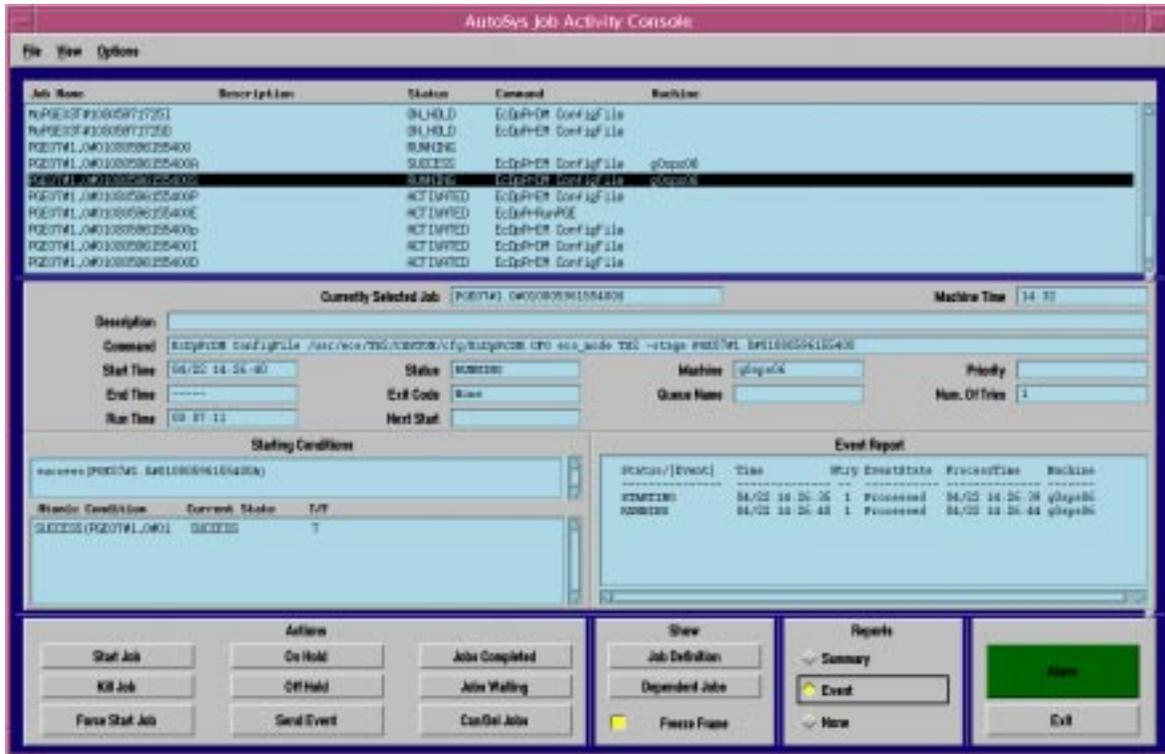

Figure 47. Job Activity Console (Ops Console) GUI
- The **Job Activity Console** GUI, also known as the **Ops Console** GUI, (Figure 47) is displayed.